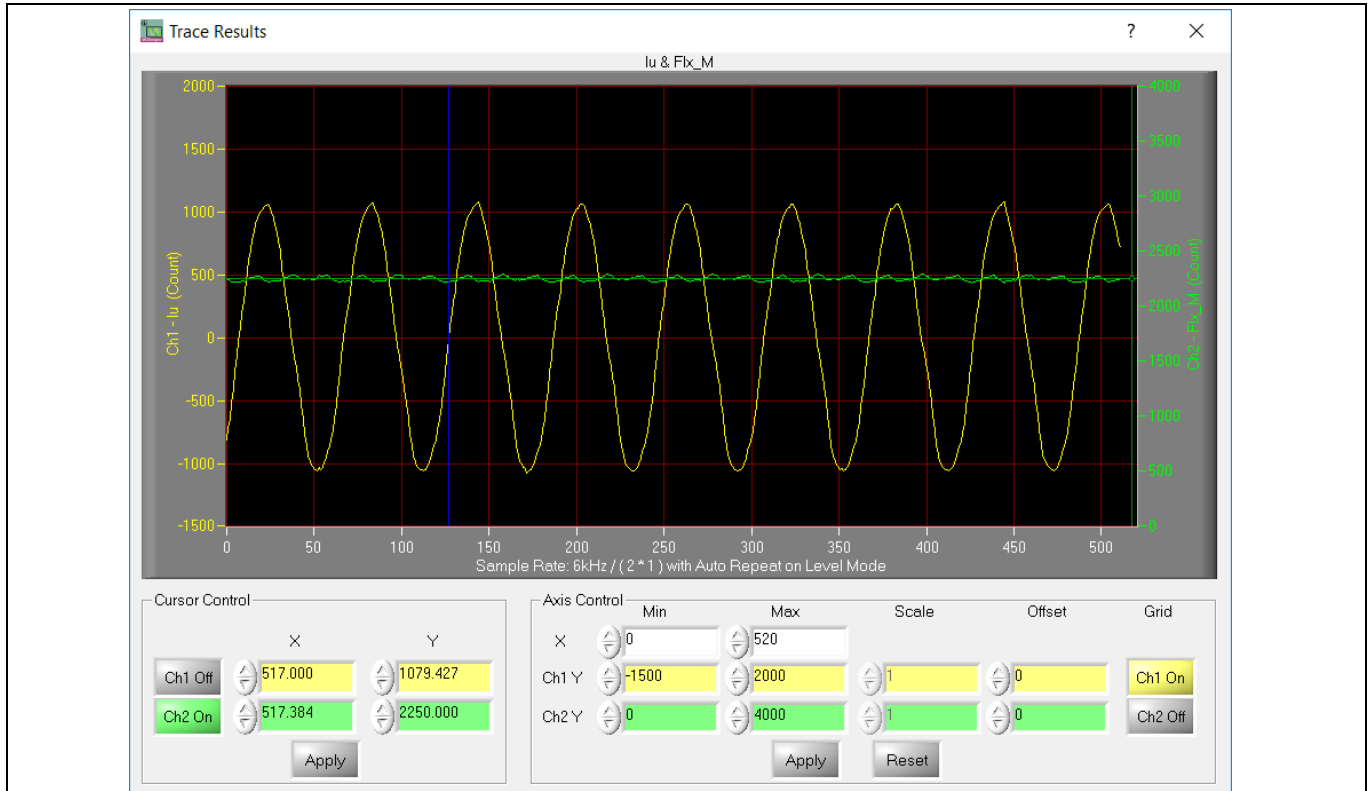

Figure 10 Trace waveform for Iu & Flx-M at 50% speed
13. Set target speed to about 50% of MAX speed, start “lu & Flx_M” trace with “Auto Repeat On Level,” see Figure 10. Flx_M is better within the range of 2000~2500 (rated value is 2048), and MUST be steady and DC-like.